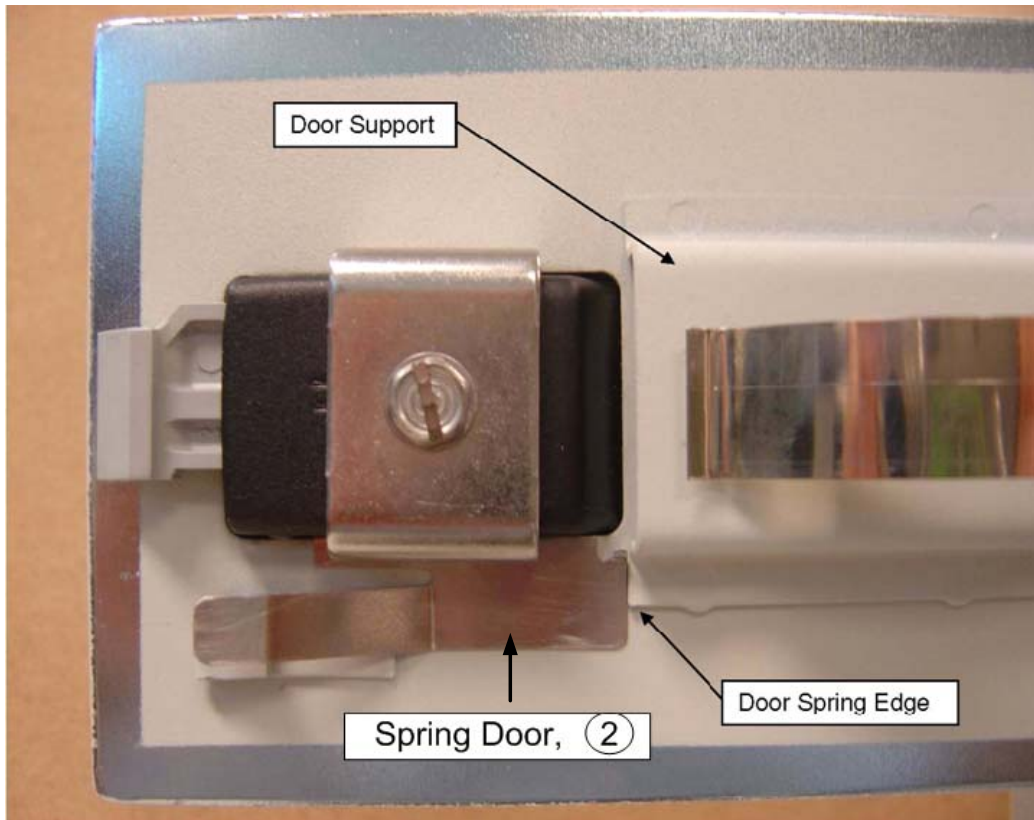

Figure 3
- 5 Loosen M4 screw and install Interlock Switch Spring on bottom edge of latch cutout. Slide spring against door support – Figure 3.